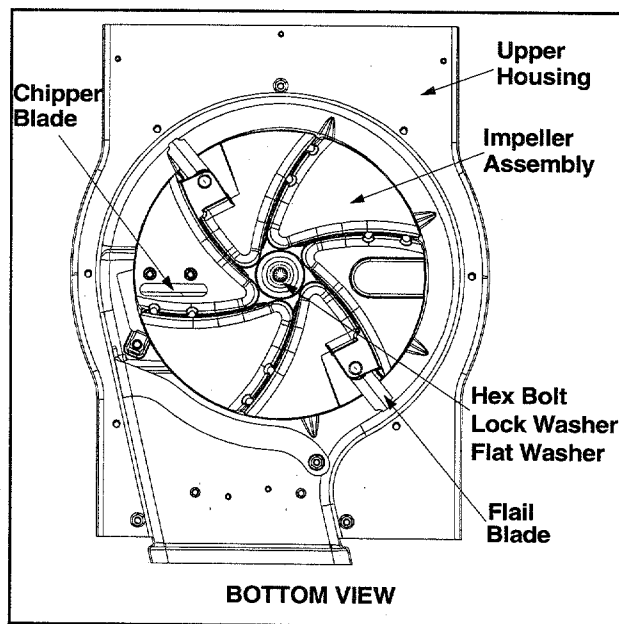

Figure 17
6. Remove the hex bolt, lock washer, and flat washer that secure the impeller assembly to the crankshaft. See Figure 17.